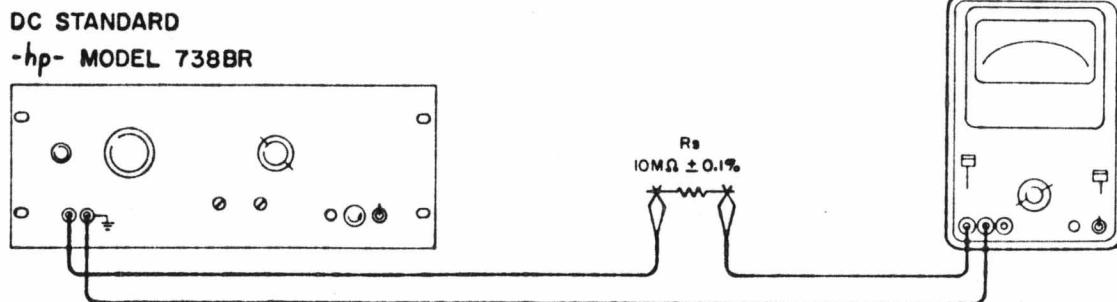

Figure 5-1. Input Resistance Check
- Connect the Model 412A/AR, dc standard and 10 megohm resistor as shown in Figure 5-1.